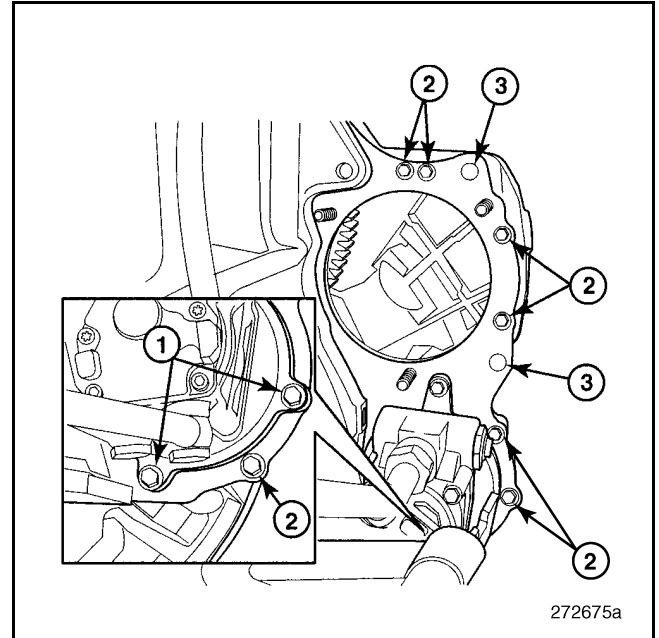

Figure 322 — Timing Gear Plate Attachment
7. Install the timing gear plate to the flywheel housing bolts (item 2 in Figure 322).